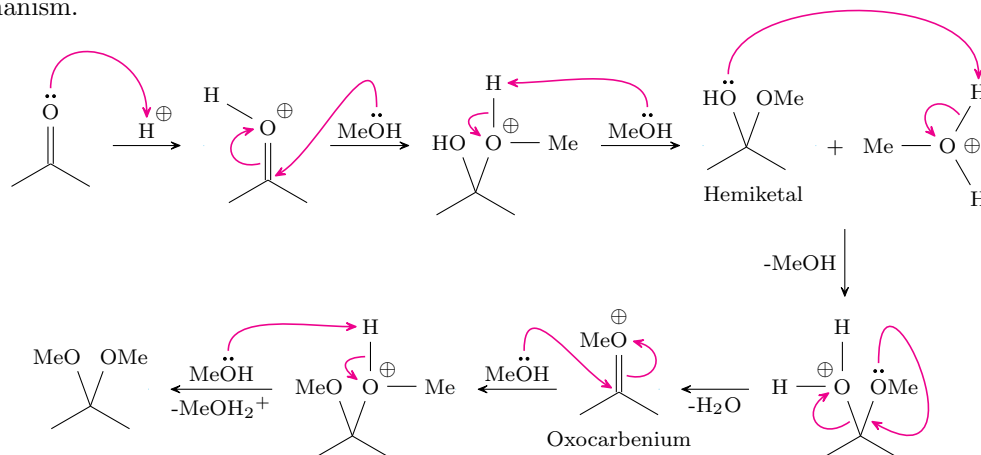

Figure 16.14: Ketal formation mechanism.
- This equilibrium is related to ketal formation (Figure 16.14).
- The mechanism is entirely analogous to Figure 16.14 up until the formation of the **iminium** ion. This intermediate is simply deprotonated at the nitrogen to yield the final imine.
- Regeneration of the acid catalyst in both Figure 16.14 and the acid imine formation mechanism.